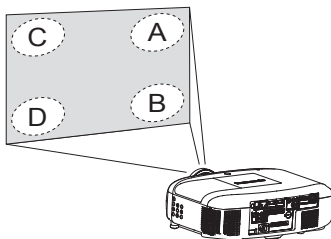

Fig. 1
- 4) Operate the projector to shift the focus toward the screen a little bit at a time until one of the areas A to D in Fig. 1 just comes into focus on the screen, and then stop.